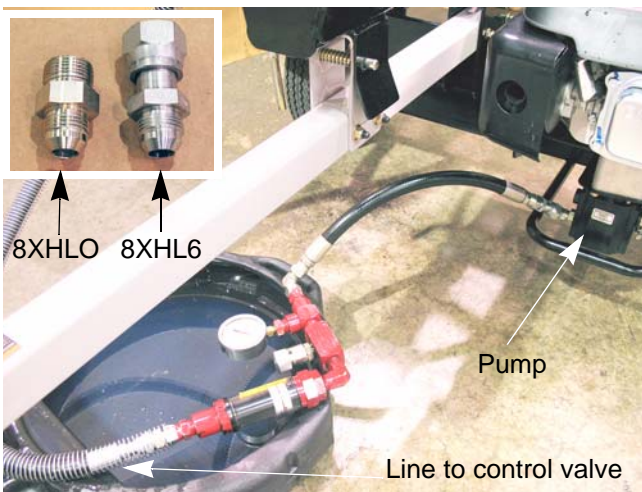

Figure 3.16
- NOTE:** A 1/2" male JIC to 1/2" male O-ring face (OFS) adapter (Parker Hannifin number 8XHLO) and a 1/2" male JIC to a 1/2" female OFS (Parker Hannifin number 8XHL6) will be needed to connect the test kit to the log splitter. See Figure 3.16. Inset.